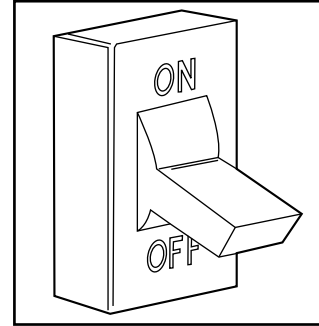
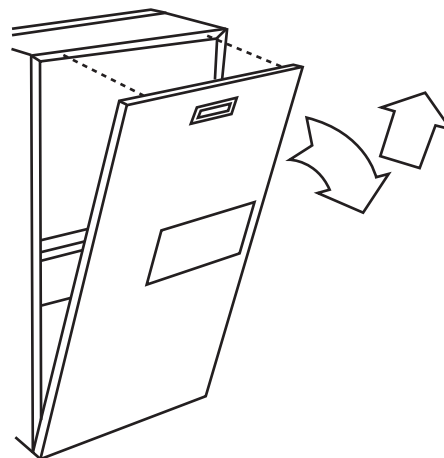

Fig. 20 - Turn Off Electrical Supply
Fig. 21 - Main Furnace Door
1. Turn off electrical supply to the furnace. See Fig. 20.
• **AIR FILTER(S) LOCATED IN BLOWER COMPARTMENT:**
- a. Remove main furnace door. See Fig. 21.
1. Turn off electrical supply to the furnace and remove the main furnace door. See Fig. 20 and 21.